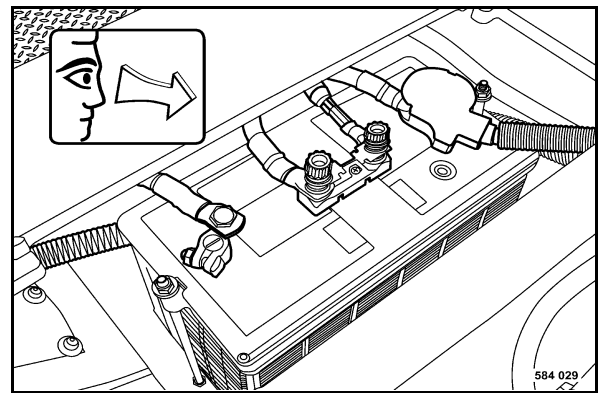

Fig. 150
- Remove the battery (Fig. 150) and clean the battery compartment.